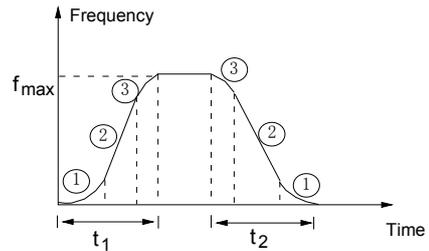

Fig. 5-15 S-ramp Acc/Dec
Output frequency increases or decreases according to a S-shape curve, as shown in Fig. 5-15.
Starting process of S-shape curve is shown in Fig. 5-15 as “①”, where the change rate of output frequency increases from 0;
Rising process of S-shape curve is shown in Fig. 5-15 as “②”, where the output frequency's changing rate is constant;
Ending process of S-shape curve is shown in Fig. 5-15 as “③”, where the changing rate of output frequency decreases to 0;